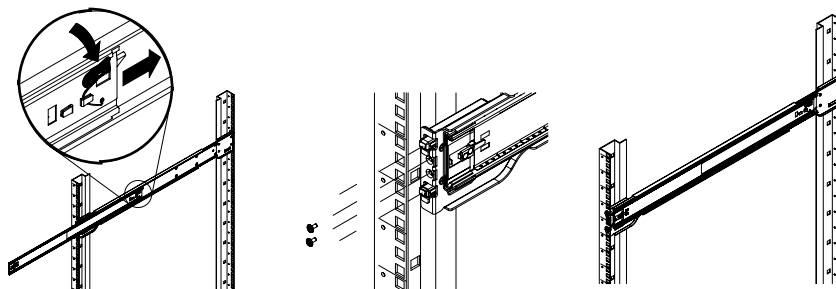

Figure 2-2 Outer Rack Rail Assembly Example
1. Secure the back end of the outer rail to the rack, using the screws provided (see Figure 2-2).